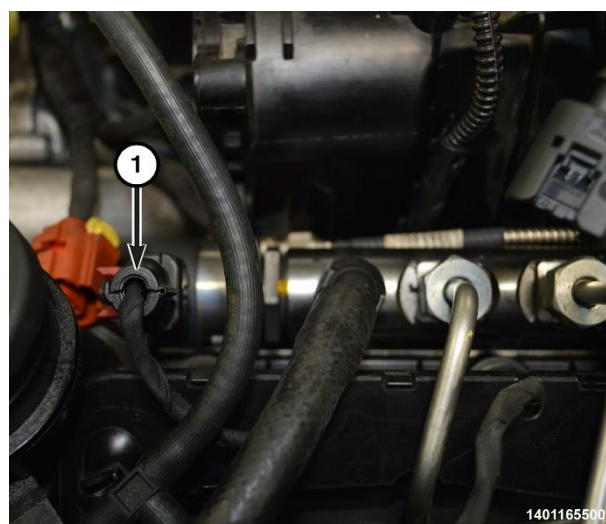

Figure 127 – Fuel Pressure Regulator Connector (Left Rail)
65. Disconnect the fuel pressure regulator wire harness connector (1) on the LEFT rail (Figure 127).